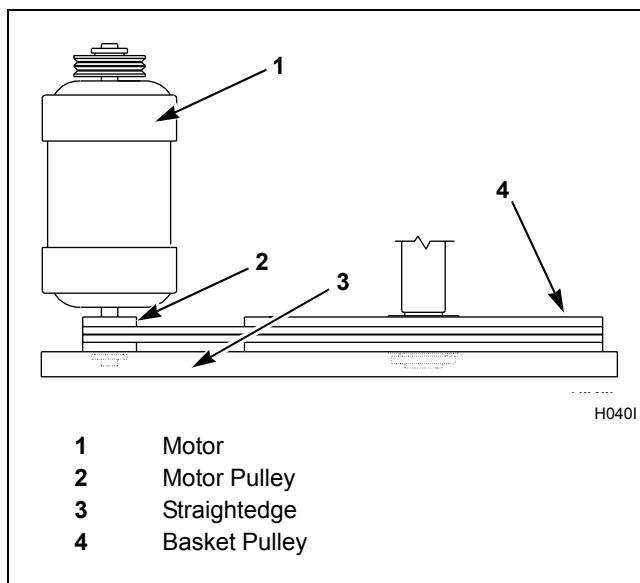

Figure 7
- b. For groove-pulley drive systems, verify alignment by placing a straightedge across both pulley faces. The straightedge should make contact with the pulleys in four places. Refer to *Figure 7*.